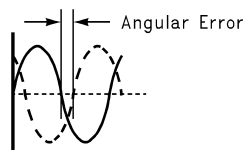

Figure 20. Angular Errors Between the Two Input Signals Will Reduce the Output Level
- Where dev is the angular difference, in degrees, between the two signals having a  $180^\circ$  relative phase relationship to each other (see Figure 20) (5)